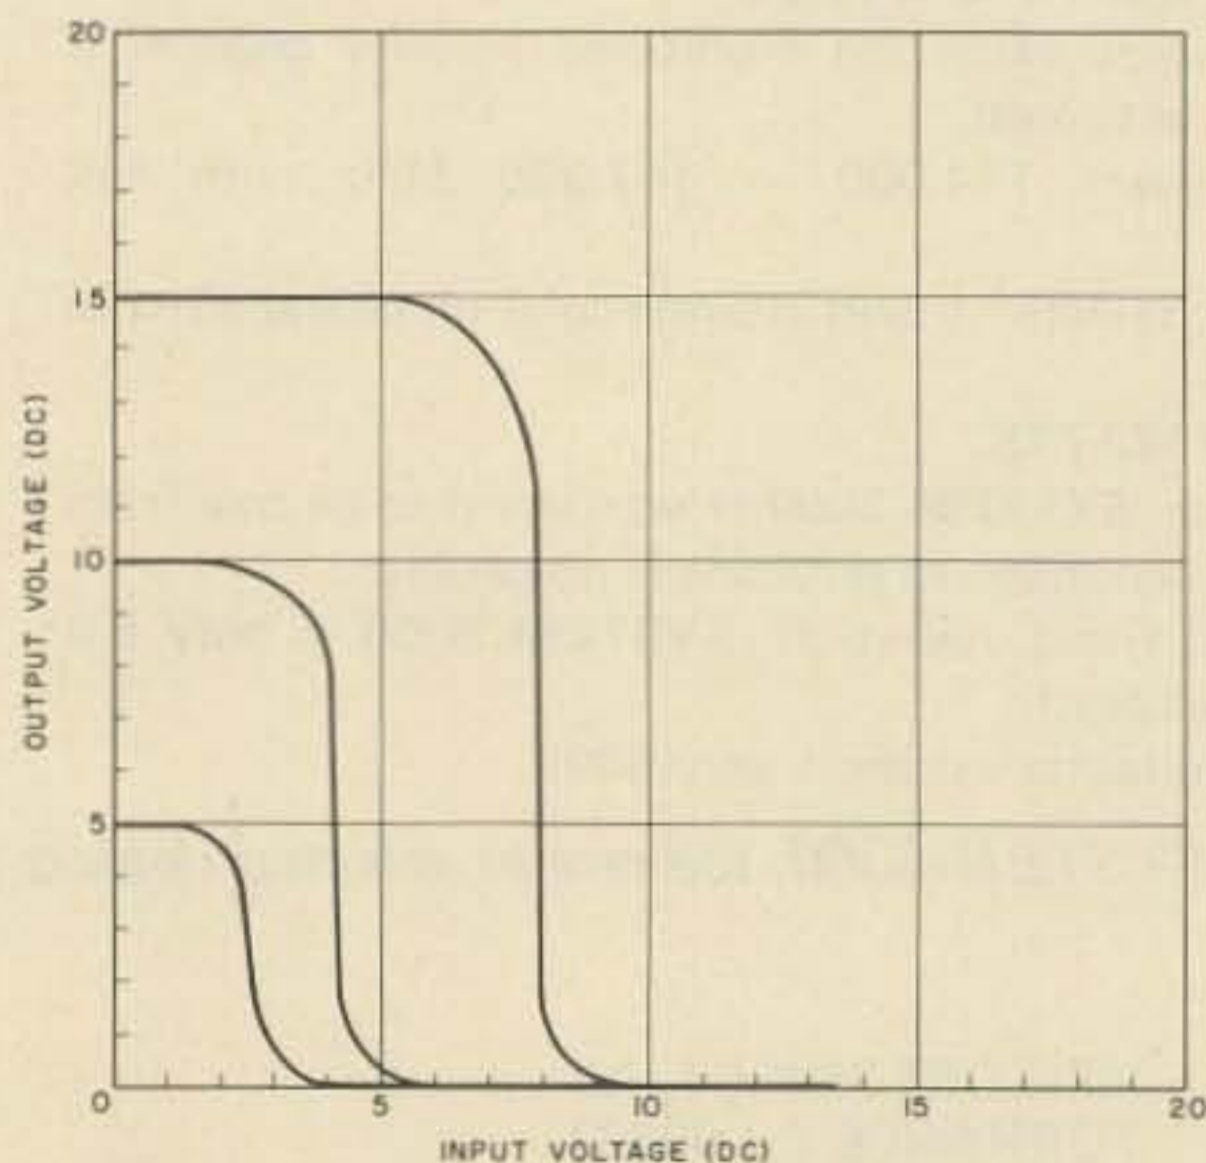

Fig. 1. Transfer characteristics for a typical CMOS inverter at 5V, 10V, and 15V.
1. *High Noise Immunity:* To understand this characteristic, it will be necessary to refer to the transfer characteristic curve for a typical CMOS IC inverter. Fig. 1 shows this transfer characteristic, which is the relationship between the input and output voltages. Note that the output voltage is affected by a change in the input voltage only at the transfer point. The steepness of this curve also indicates that as the transfer point is reached, there is an abrupt change or a "toggling" of the output.